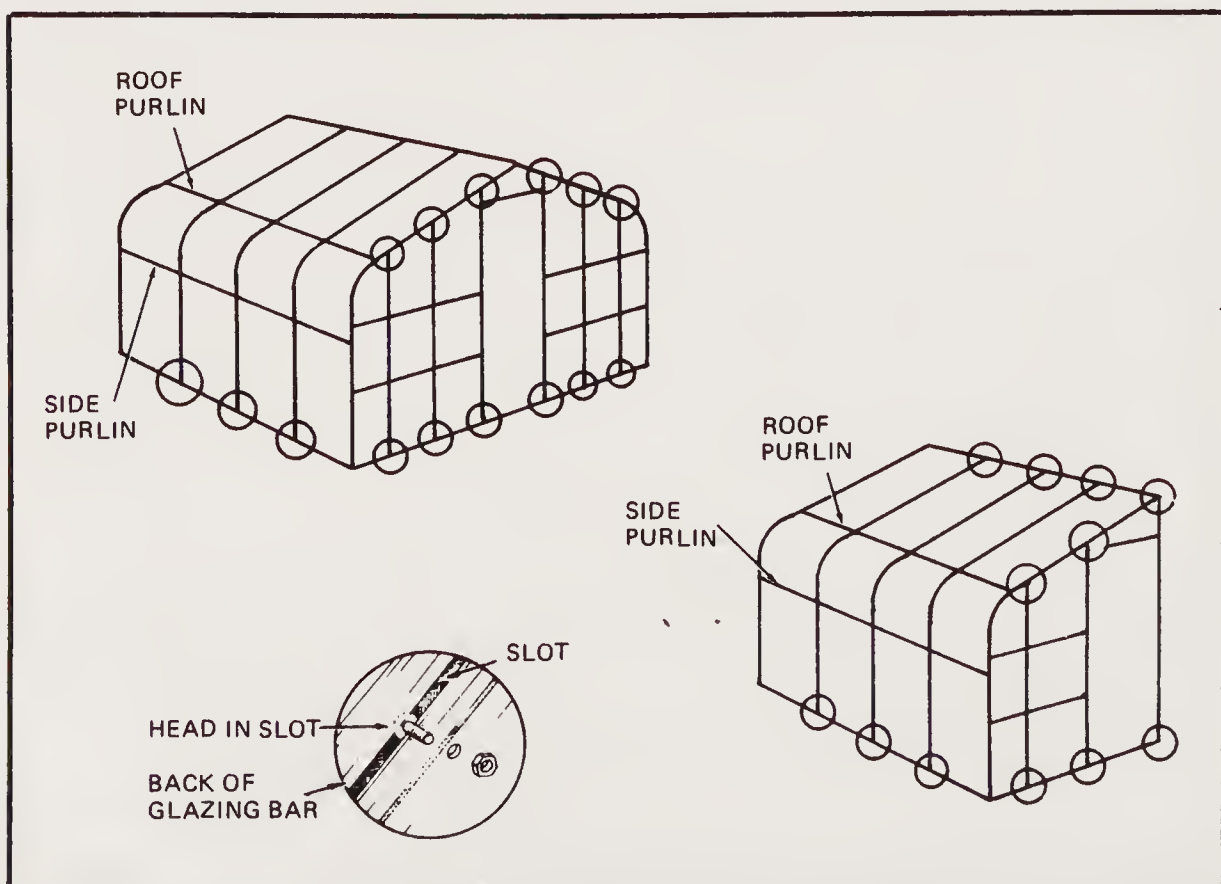
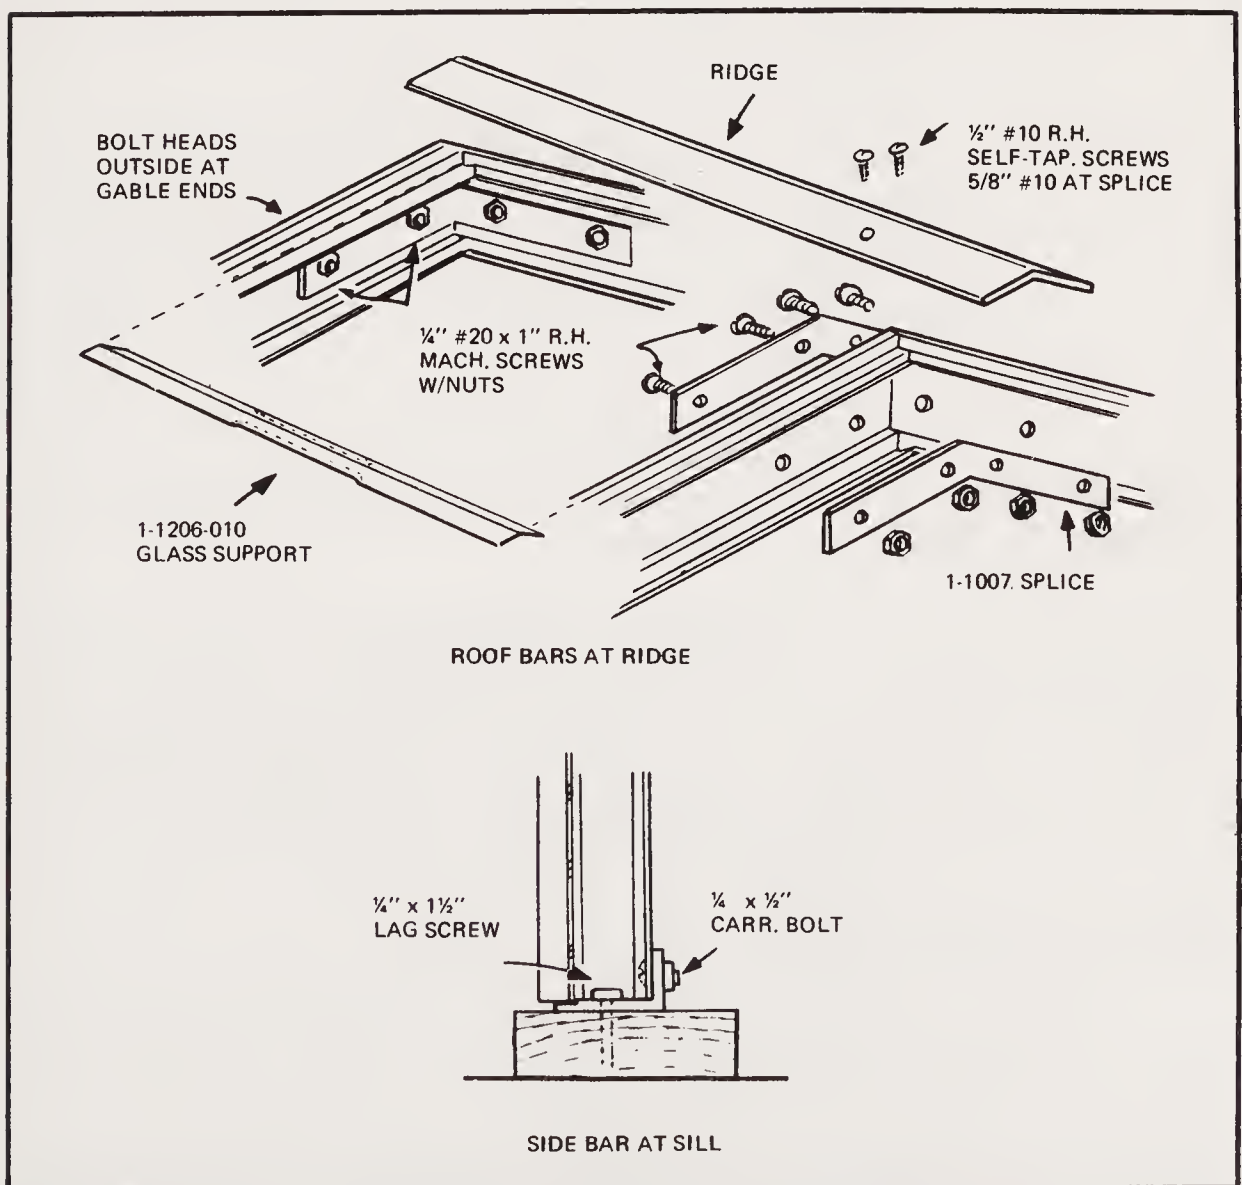

Fig. 2-126. Assembling framework for Evan Span connecting bars at ridges (courtesy of Lord & Burnham Co.).
Fig. 2-127. Detail attaching frames to sides (courtesy of Lord & Burnham Co.).
**Evan Span Model.** Connect framing bars at the ridge with splice fittings; use two per intermediate connection (Fig. 2-126). Attach frames to sills; intermediate side bars bolt directly to the back of the sill. Corner side bars connect to the sill with an angle lug (Fig. 2-127).